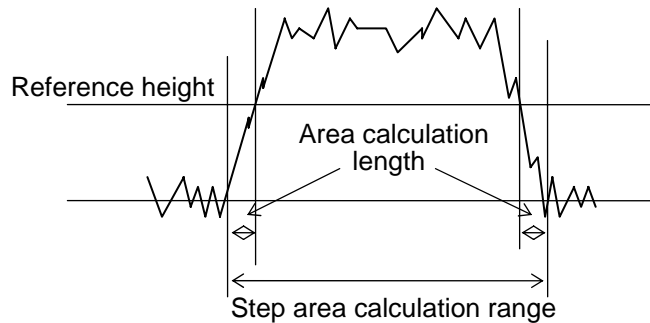

Figure 4 Area calculation
- C. Specifies the range extended from the reference height position forward and backward for the length of area calculation length as a step area calculation range. (See Figure 4.)